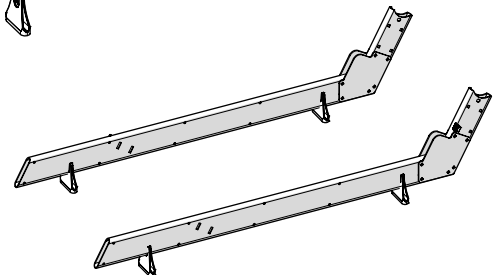

Fig. 4-3
- Arrange the side rails parallel to each other aligned top and bottom as shown in Fig. 4-3.